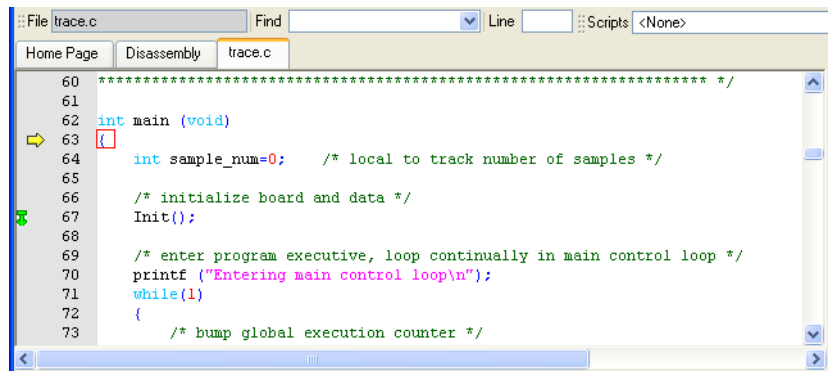

Figure 10-14 Trace Start Point set
- d. Click **OK**. The dialog box closes, and the Trace Start Point is set as indicated by the green arrow . Figure 10-14 on page 10-16 shows an example: